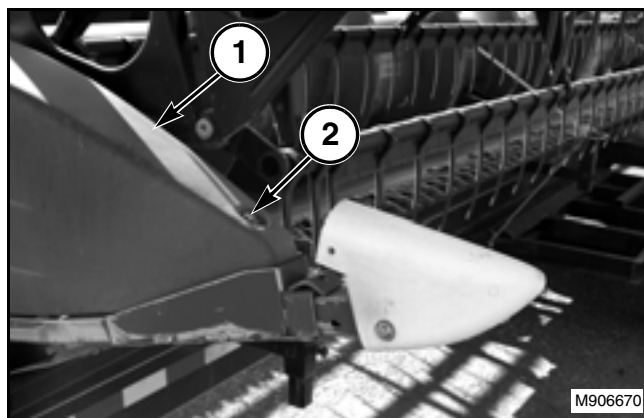

FIG. 38
FIG. 38: To remove a divider shield (1), remove the capscrew (2) at the front of the shield. Lift up on the front of the divider shield and pull forward to disengage the shield mounts.